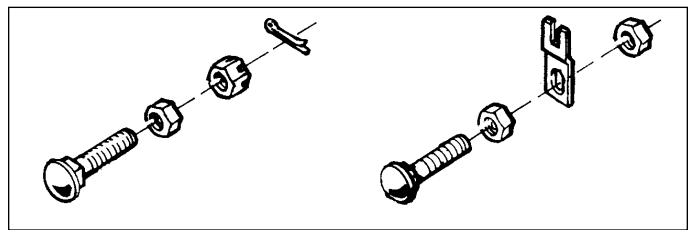

Figure D-43. Brake Retainer Nut Variations
22. To install brake disks, first install a stator, then a rotor (hub to inside), then a stator, then a rotor (hub to inside), then two stators. See Figure D-43